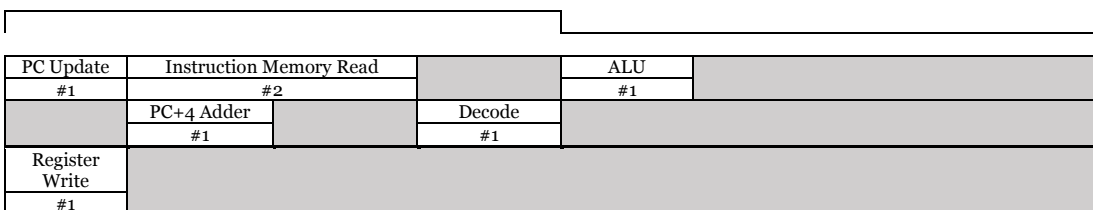

Figure 4: Timing Details for the Datapath
The diagram given in Figure 4 shows the overall timing of your single-cycle CPU for the `add`, `sub`, `and`, `or`, `mov`, and `loadi` instructions. One clock cycle spans for eight (8) time units duration, rising edge to rising edge. Every instruction should complete within one clock cycle, and any data to be written to the register file should be ready by the rising edge at the end of the clock cycle. Writing to registers and PC should be synchronized to rising edges of the clock, while reading of registers should happen asynchronously. The given timing delays should be artificially added to the corresponding operations in order to realistically simulate the latencies observable in a synthesized datapath. For the sake of simplicity, we will be assuming that our multiplexers and wires have negligible delays.